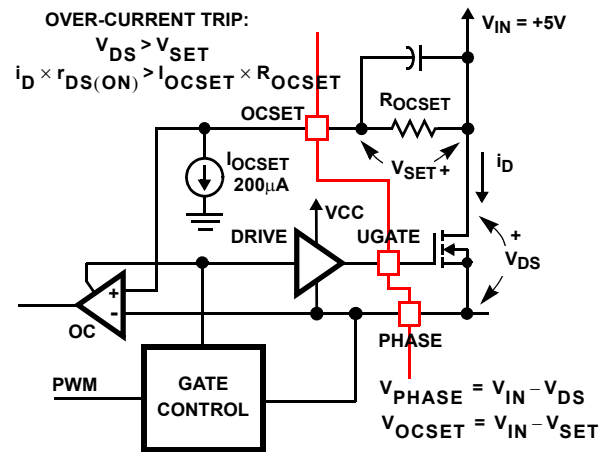

FIGURE 9. OVER-CURRENT DETECTION
An external resistor (R_{OCSET}) programs the over-current trip level for the PWM converter. As shown in Figure 9, the internal 200µA current sink (I_{OCSET}) develops a voltage across R_{OCSET} (V_{SET}) that is referenced to V_{IN}. The DRIVE signal enables the over-current comparator (OC). When the voltage across the upper MOSFET (V_{DS(ON)}) exceeds V_{SET}, the over-current comparator trips to set the over-current latch. Both V_{SET} and V_{DS} are referenced to V_{IN} and a small capacitor